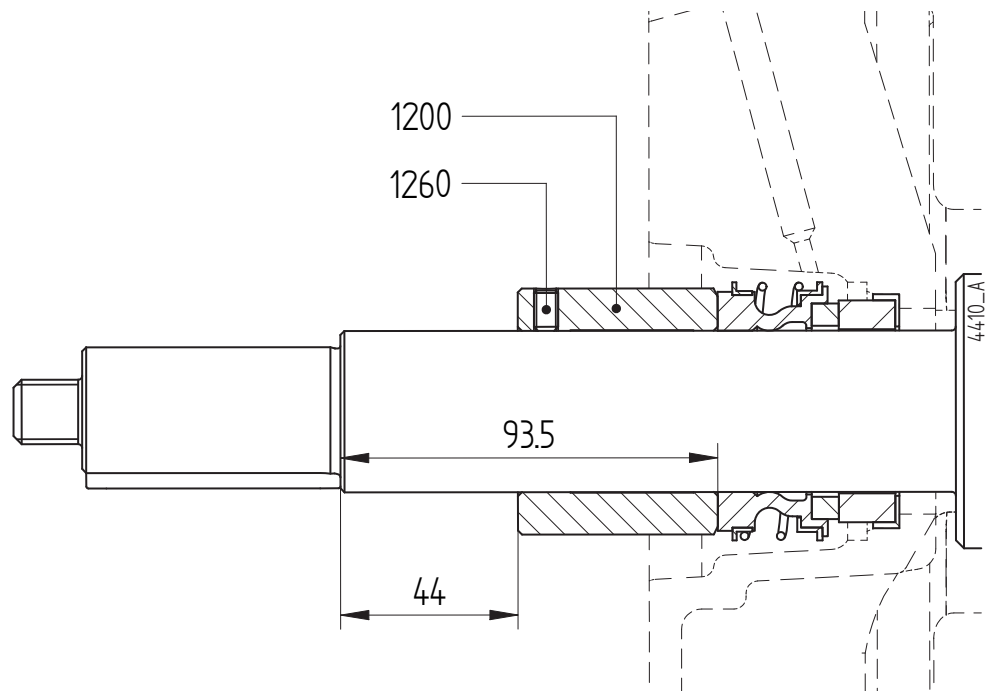

Figure 13: Adjusting the mechanical seal M1 of pump size 200-160.
- 2 Fit the shaft sleeve (1200) and set the distance to the shaft collar to 44 mm. See figure 13 of paragraph 7.6.3 "Assembling a mechanical seal M1". Tighten the set screws (1260).
- 2 Pump size 200-160 only: Loosen the set screws (1260). See paragraph Figure 13: "Adjusting the mechanical seal M1 of pump size 200-160".
- 7 Pump size 200-160 only: Set the distance between the spacer sleeve and the shaft collar at **44 mm**. Fix the spacer sleeve by means of set screws (1260). See figure 13.